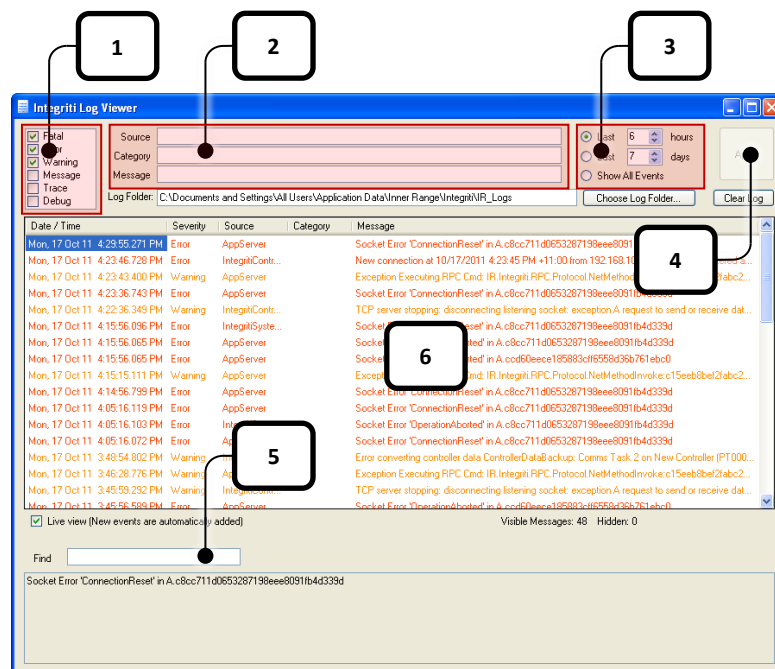

Figure 109
1. Ensure the Error checkbox is ticked. Un-tick the other checkboxes. (Figure 109)